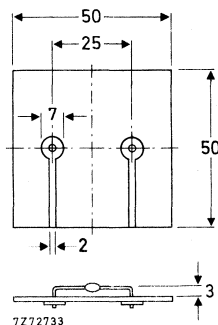

Fig. 2 Mounted on a printed-circuit board.
2. Thermal resistance from junction to ambient when mounted on a 1,5 mm thick epoxy-glass printed-circuit board; Cu-thickness $\geq 40\text{ }\mu\text{m}$; Fig 2.